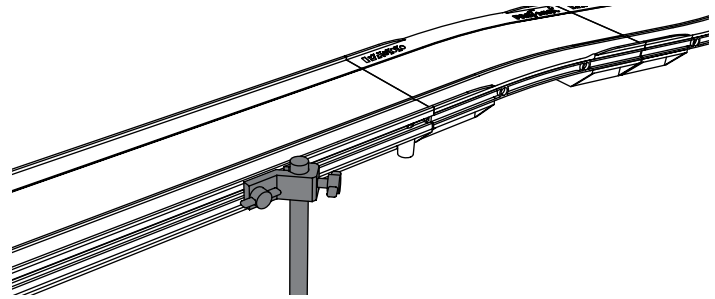

Figure 3: Pivot Clamp
3. Use rods, stands, and clamps to support the elevated straight sections (see figures 3 through 5).
The elevated straight sections of the assembled track can be supported using one of the methods illustrated in figures 3, 4, and 5. The number of support points needed depends on the length of the track. In most cases, two are sufficient.
**Pivot Clamp Method** Attach a Pivot Clamp (ME-9810) to the T-slot on the side of a straight section (Figure 3). Secure the Pivot Clamp at the desired height on a vertical rod. The vertical rod can be supported by a table clamp (such as ME-9376B) or by a rod base (such as ME-8976).